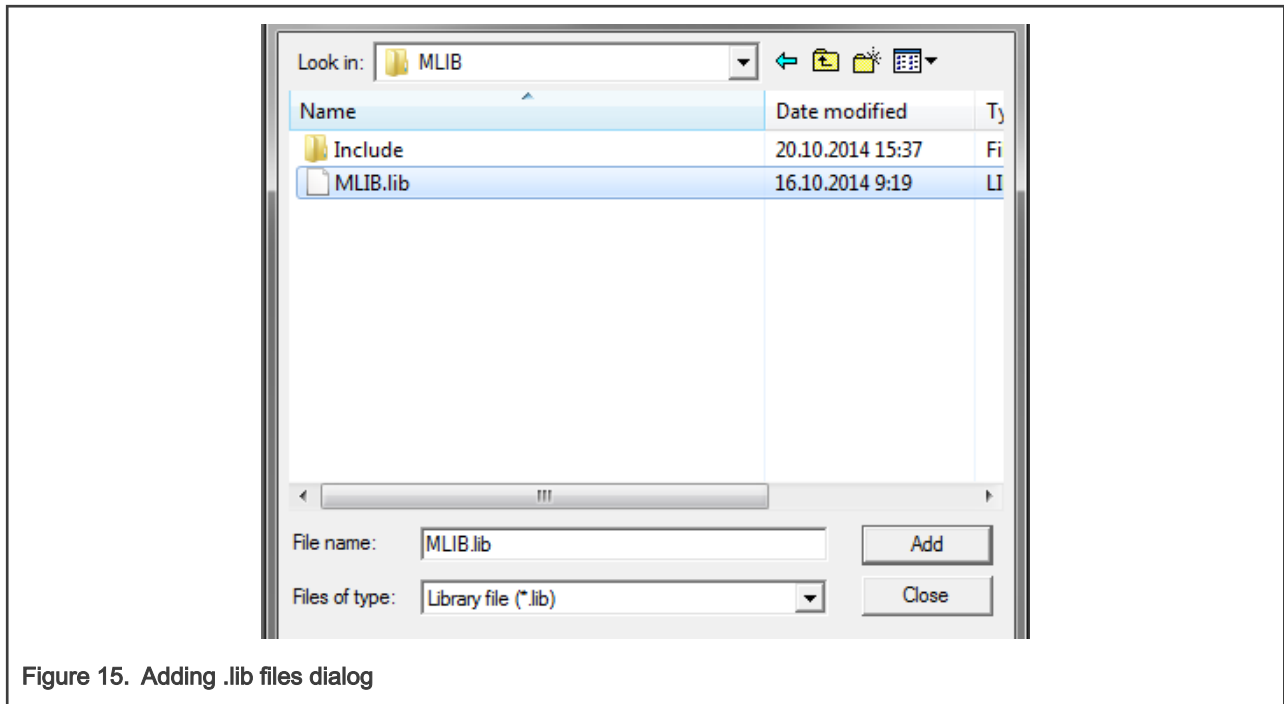

Figure 15. Adding .lib files dialog
- Navigate to the parent folder C:\NXP\RTCESL\CM7_RTCESL_4.7_KEIL\MLIB, and select the *mlib.lib* file. If the file does not appear, set the Files of type filter to Library file. Click Add. See Figure 15.